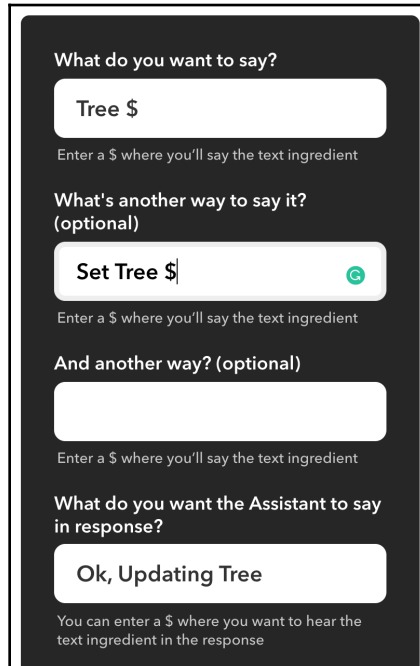

Figure 14.8 – Google Assistant trigger example
5. Now it's time to select the Google Assistant trigger. Choose **Say a phrase with a text ingredient**. A sample trigger configuration is shown in *Figure 14.8*: